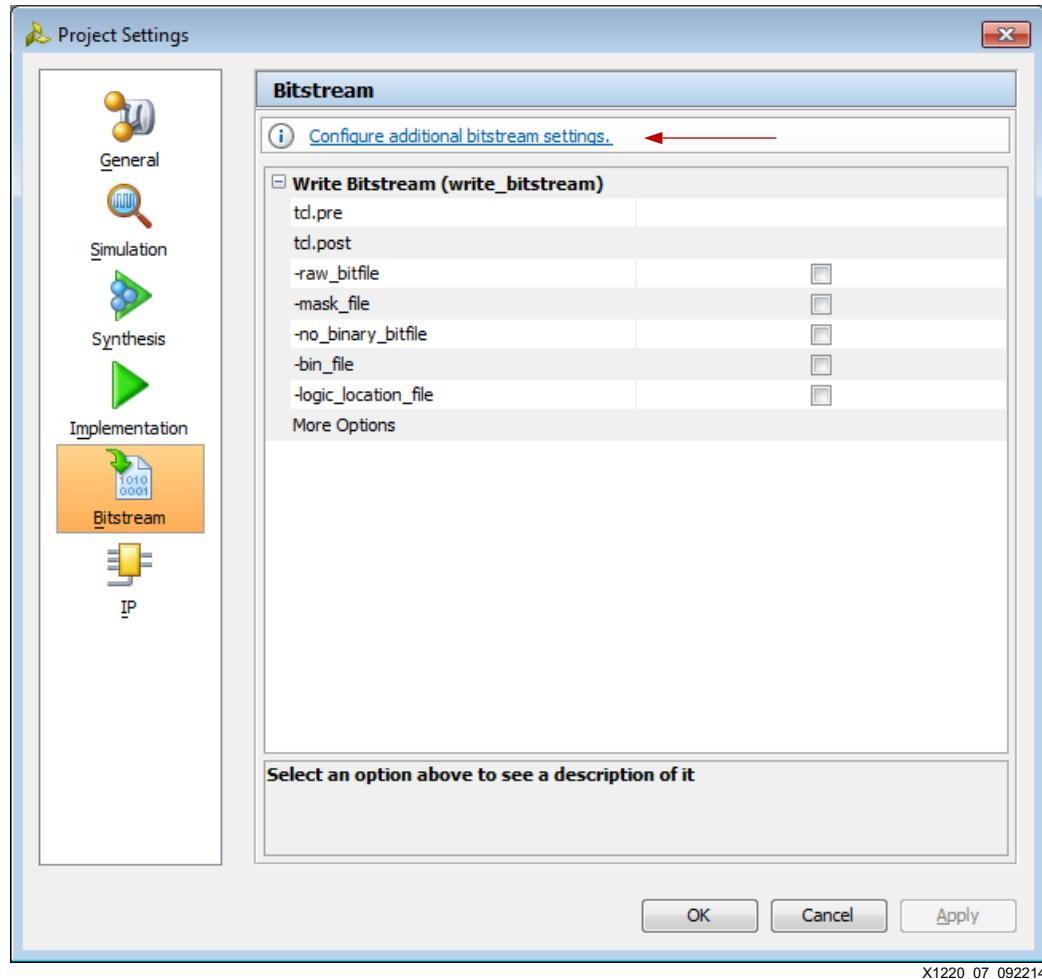

Figure 7: Project Settings Bitstream Window
- From the Project Settings window, edit device configuration bitstream settings using the **Configure additional bitstream settings** link, shown in Figure 7. This link only becomes available when the project has an opened synthesized or implemented design.